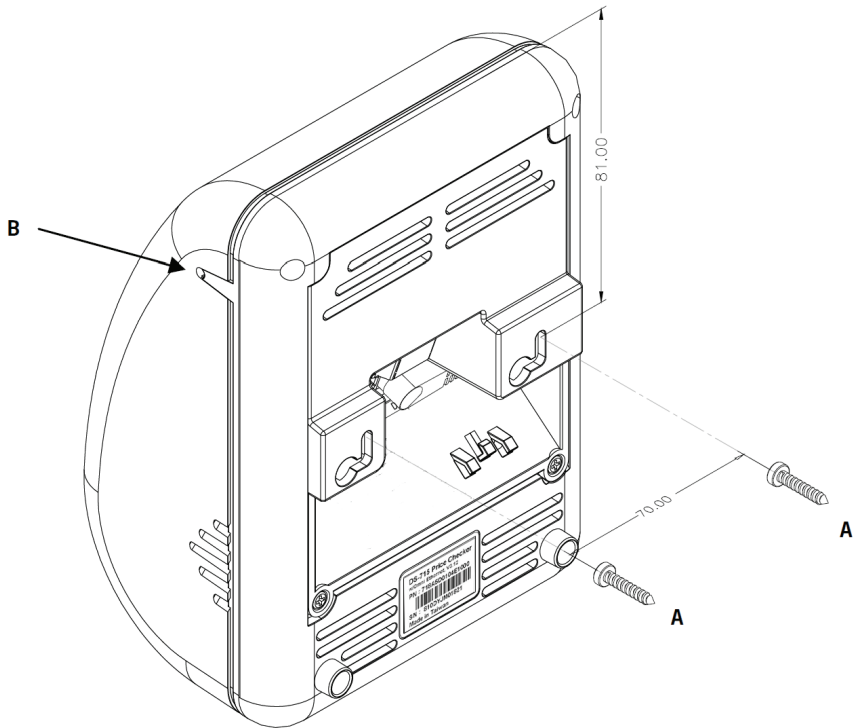

fig 3.1
3. Connect the power cable and the communication cable of the Price Checker (see figure 3.1 above).